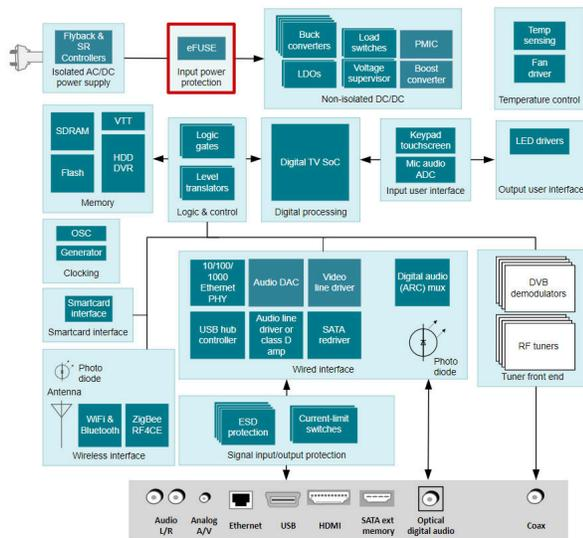
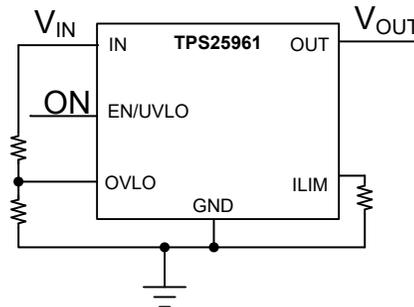

Figure 1. Set-top Box Design
Figure 2. TPS25961 Configured for Programmable OVP and OCP
Figure 1 shows a typical discrete implementation for application , for example adapter and or USB input protection in end equipments (EE) such as STB, wireless ear buds charging case, and so on. The design is a very basic implementation that provides power path on and off functionality and inrush current control. Advantage of using TPS25961 is the integration of key power path protection features into a simpler, smaller design, including thermal shutdown, controlled rise time, overvoltage, and short circuit protection. Applications requiring additional robust power path protection other than on-off control must add more components to basic discrete implementation which will further increase the design size and complexity. In some instances, such as thermal shutdown, this might not be properly implemented with discrete components. Figure 3 compares the design size of a basic discrete design that offers on-off control and fixed overcurrent protection with TPS25961 configured in most optimized way that provides fixed overvoltage and overcurrent protection. In this example, the discrete FET design consists of 7 components with a total design size of 80 mm2 . In comparison, the TPS25961 consists of the single IC at 4 mm2 with a 95 % reduction in design size. TPS25961 can also be configured for a generic use case having programmable overvoltage and overcurrent protection by adding a resistor divider at OVLO pin and one resistor at ILIM pin as shown in Figure 2.